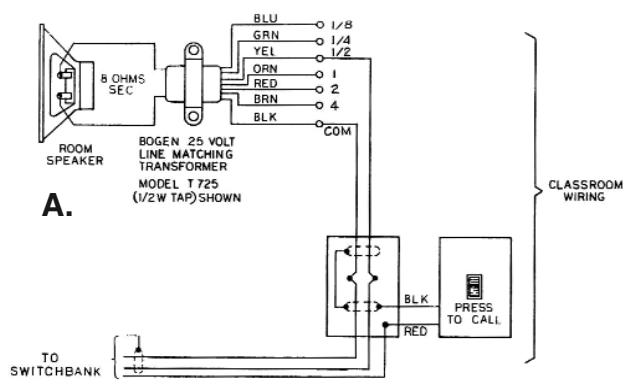

Figure 10 – Wiring Diagram: A: Model CA10A; B: Model CA11A
**CA10A and CA11A** – These momentary, rocker-type Call Switches are used to signal the control panel operator to establish communications through a two-way speaker. The CA11A incorporates a privacy mode to prevent monitoring. See Figure 10.
Figure 10 shows the room connections and the switch required for incorporating the optional privacy feature in the system.